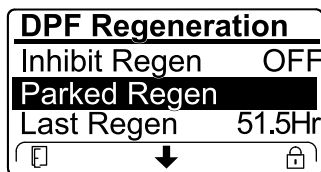

Figure 57
- If the engine computer requests a recovery regeneration or is processing a recovery regeneration and you scroll down to the PARKED REGEN option, parked regeneration locks and the lock icon (Figure 57) appears in the lower right corner of the InfoCenter.